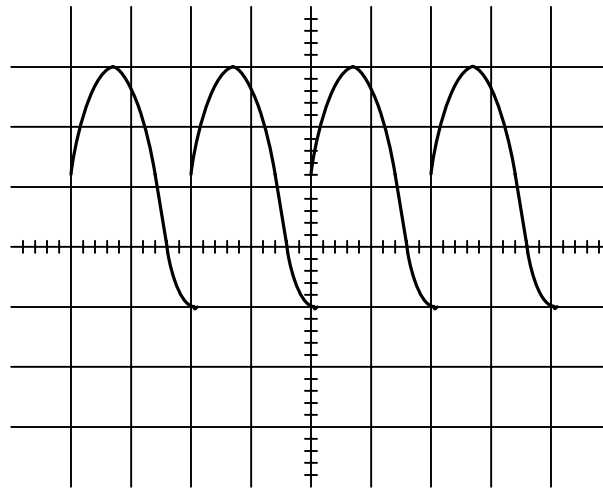

FIGURE 2-7: XYZ DISPLAY - FOUR 512-POINT RECORDS @ 1.5 KHZ
13. The XYZ monitor will display four identical waveforms as shown in Figure 2-7. Notice that all waveforms start at the same trigger point. All four records are displayed successively on one line, starting with record zero.
14. If the display is clipped on the top or bottom of the waveform, adjust the amplifier POSITION control or decrease the output amplitude of the generator as required. Press ARM to acquire and display the new data. Repeat this step until the display is similar to Figure 2-7.